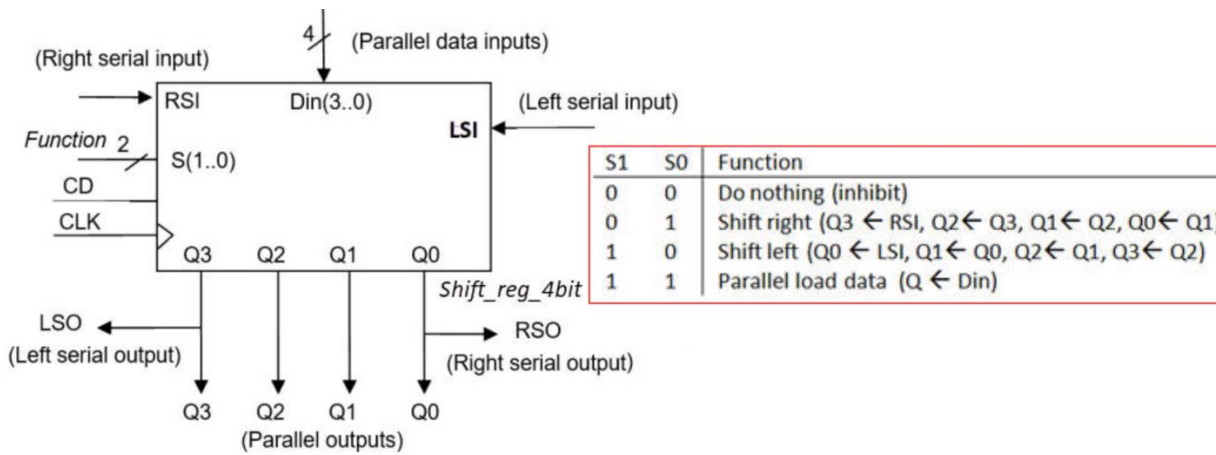

Fig. 9.
8. Invent the synchronous *CLK_generator* represented in Fig. 9. Specifications and plan. Number of *D_FF* used. Number of VHDL files included in the project. Design a *Freq_div_N* using plan Y.
9. Invent a 10-bit universal shift register using plan C2 and the component represented in Fig. 9. Use the invented device to generate a 10-bit LED left rotator in one-hot code.